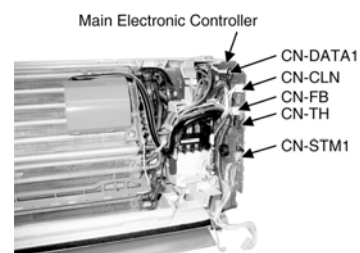

Fig. 5
- Release the CN-DATA1.(Fig. 5)
- Release the CN-CLN.(Fig. 5)
- Release the CN-FB.(Fig. 5)
- Release the CN-TH.(Fig. 5)
- Release the CN-STM1.(Fig. 5)